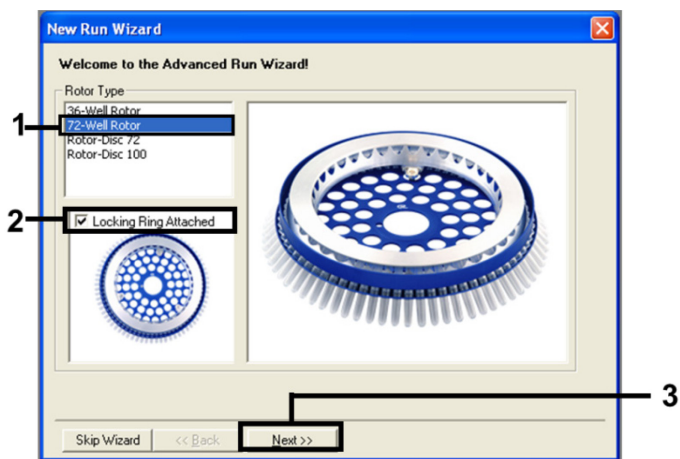

Figure 1. The “New Run Wizard” dialog box.
3. Select 72-Well Rotor as the rotor type. Confirm that the locking ring is attached and check the “Locking Ring Attached” box. Click “Next” (Figure 1).